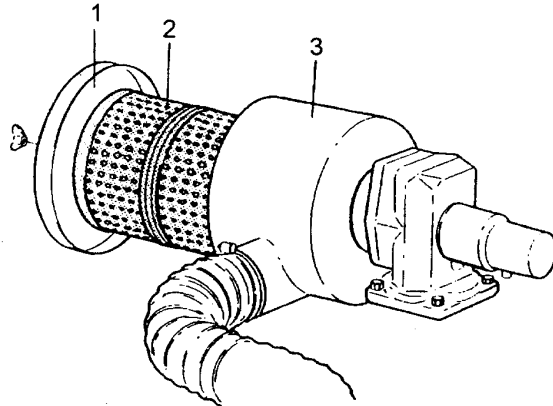

Figure 6-1 – AIR FILTER
STANDARD DUTY AIR FILTER (Figure 6-1) - Replacement instructions are given in the following sections:
4. Remove the air filter cover (Figure 6-1) and remove the old filter elements.